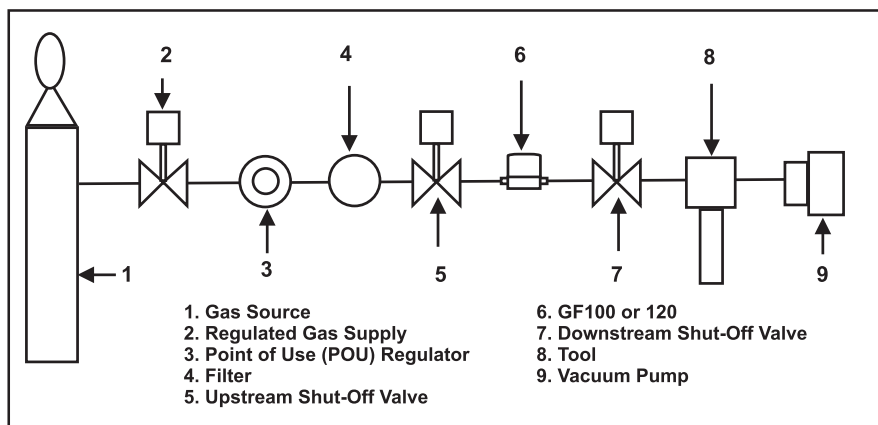

Figure 2-1 Typical Gas Supply Arrangement with non-PTI MFC
Typical gas supply arrangements are shown in Figures 2-1 and 2-2. GF100's are often arranged inside a gas panel. Configure standard configurations ("SHs") or "blanks" for a variety of pure gases and mixtures. As a result, MultiFlo technology enables the user to reduce unique inventory requirements.
For additional safety, it is recommended to close the two valves between the charged gas line and the GF100 Series to be installed. See Figures 2-1 and 2-2 for more details.
2. Refer to Figure 2-1. Open the upstream shut-off valve (5) and close the downstream shut-off valve (7). This eliminates a pressure drop across the GF100 Series and subsequent leakage from the PID control valve inside the GF100 Series.
4. Refer to Figure 2-1. Close the upstream shut-off valve (5) to prevent any pressure effects from the regulator (3).